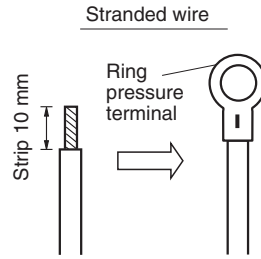
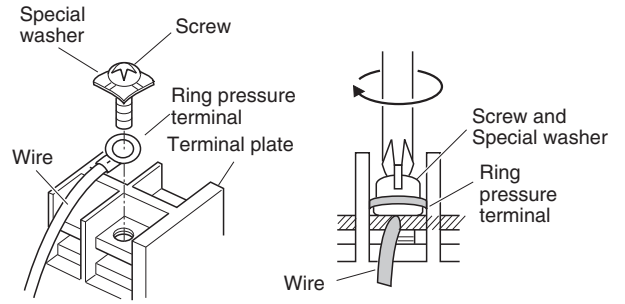

Fig. 4-7
Fig. 4-8
- (1) Cut the wire end with cutting pliers, then strip the insulation to expose the stranded wiring about 10 mm and tightly twist the wire ends. (Fig. 4-7)
- (2) Using a Phillips head screwdriver, remove the terminal screw(s) on the terminal plate.
- (3) Using a ring connector fastener or pliers, securely clamp each stripped wire end with a ring pressure terminal.
- (4) Place the ring pressure terminal, and replace and tighten the removed terminal screw using a screwdriver. (Fig. 4-8)